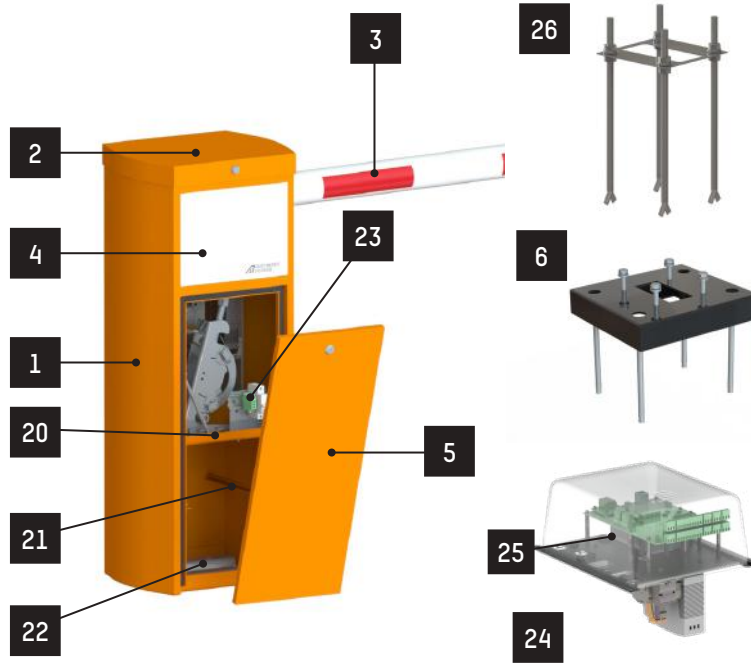

Fig. 1 - Component location - General
- Cut off the power supply on the circuit breaker (⇒ Rep. 23, Fig. 1, page 6) before any manipulation inside the housing.